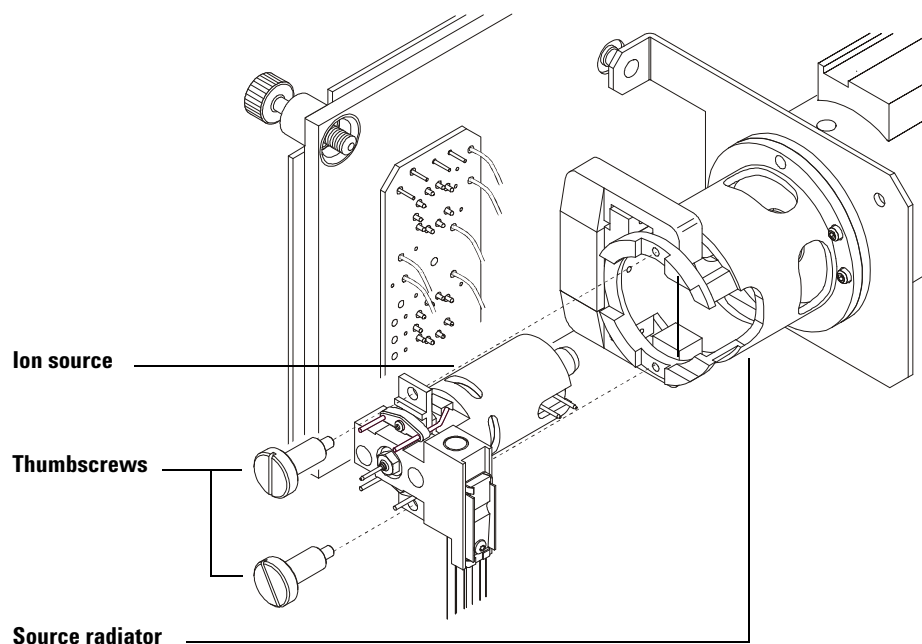

Figure 15 Installing the EI ion source
- 1 Slide the ion source into the source radiator (Figure 15).